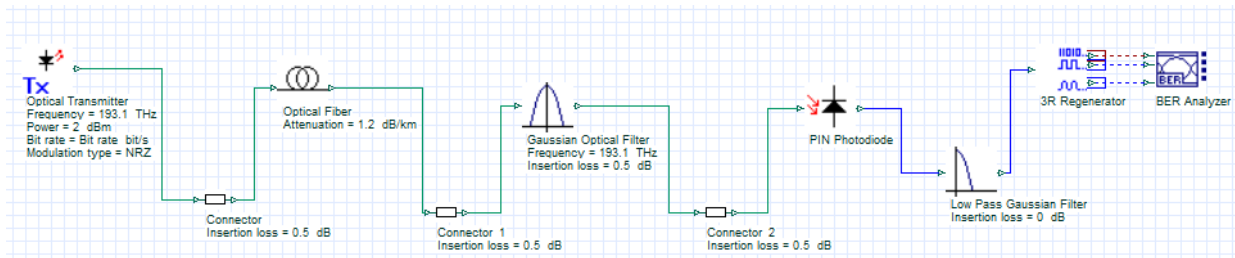

Figure 1: A loss limited system.
2.1.3 Determine the maximum length of optical fiber that should be used in the 1 Gb/s system in Figure 1 below, to obtain a 6 dB power margin. Assume a -30 dBm receiver sensitivity.
Refer to the system in Figure 1 and build it in OptiSystem. Correctly set the power and bit rate of the optical transmitter to 2 dBm and 1 Gb/s respectively. To simulate a receiver with a -30 dBm sensitivity set the PIN photodiode's Thermal power density to 15e-24 W/Hz. You will need to place the following components: